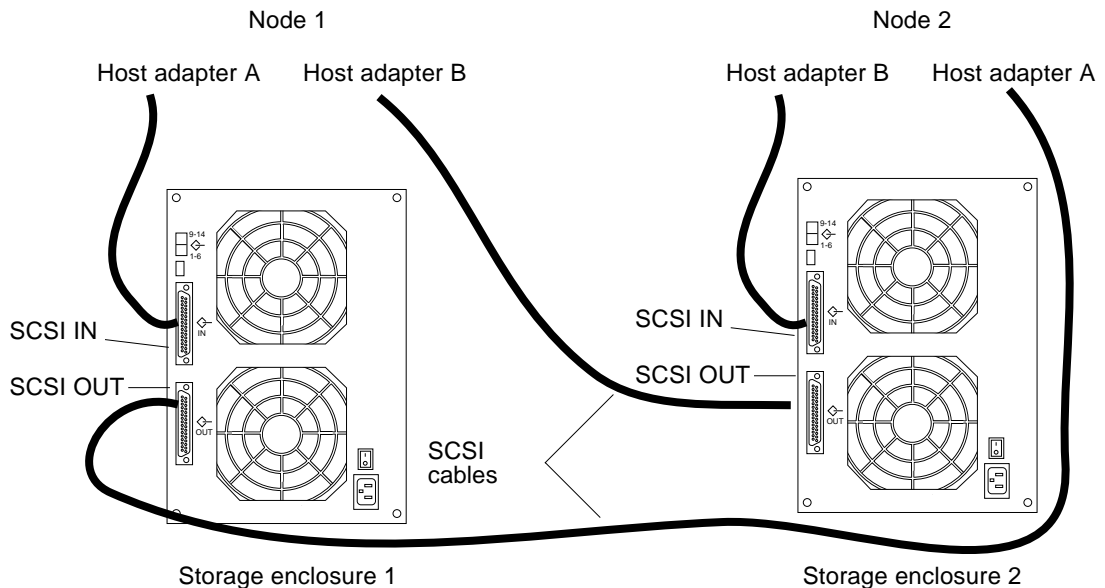

FIGURE 4-1 Example of a StorEdge MultiPack Enclosure Mirrored Pair
3. Connect the cables to the StorEdge MultiPack enclosure, as shown in FIGURE 4-1.